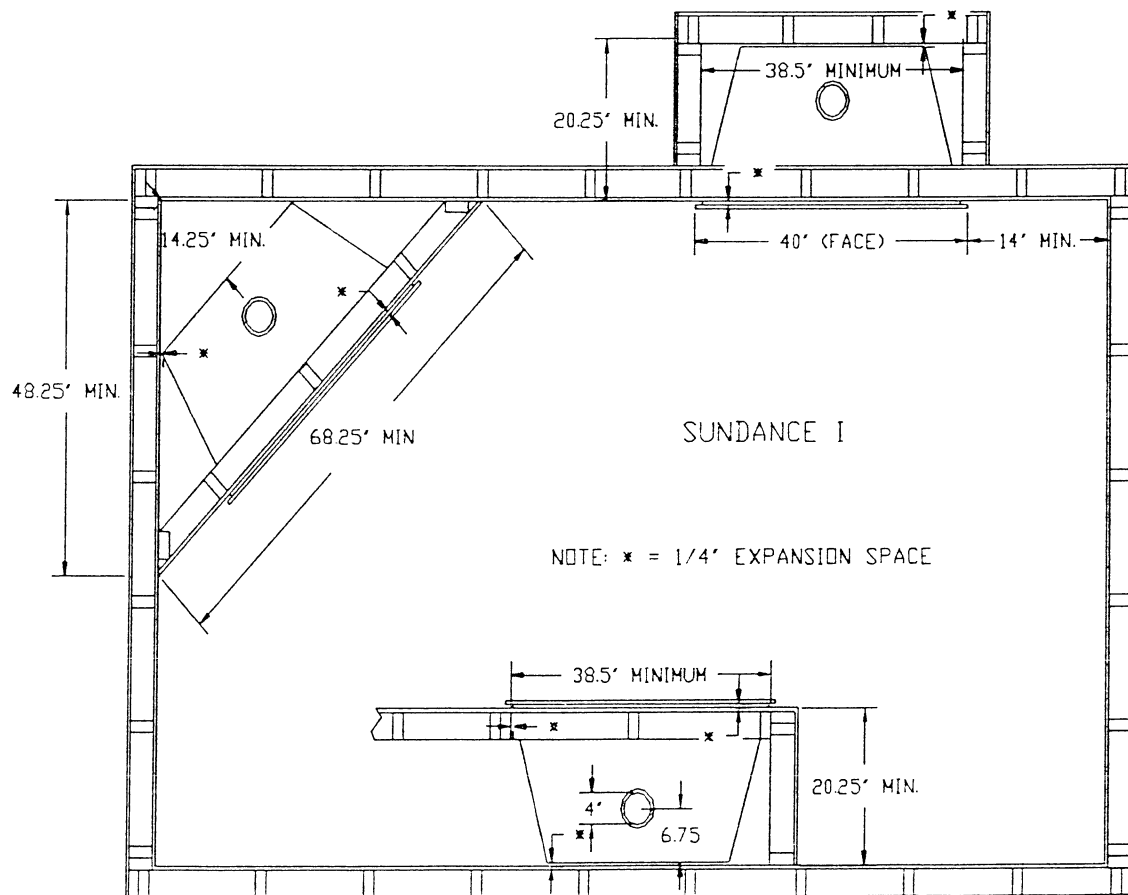

Figure 2
A. POSITION THE UNIT. See figure 2.
3. Minimum clearance to combustibles, see also Figure 2: